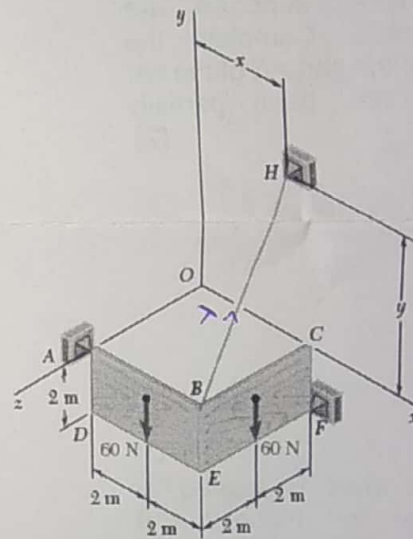

Figure 3
3. Two 2x4 m plywood panels each of weight 60 N, are nailed together as shown in Figure 3. The panels are supported by ball-and-socket joints at A and F and by the wire BH.